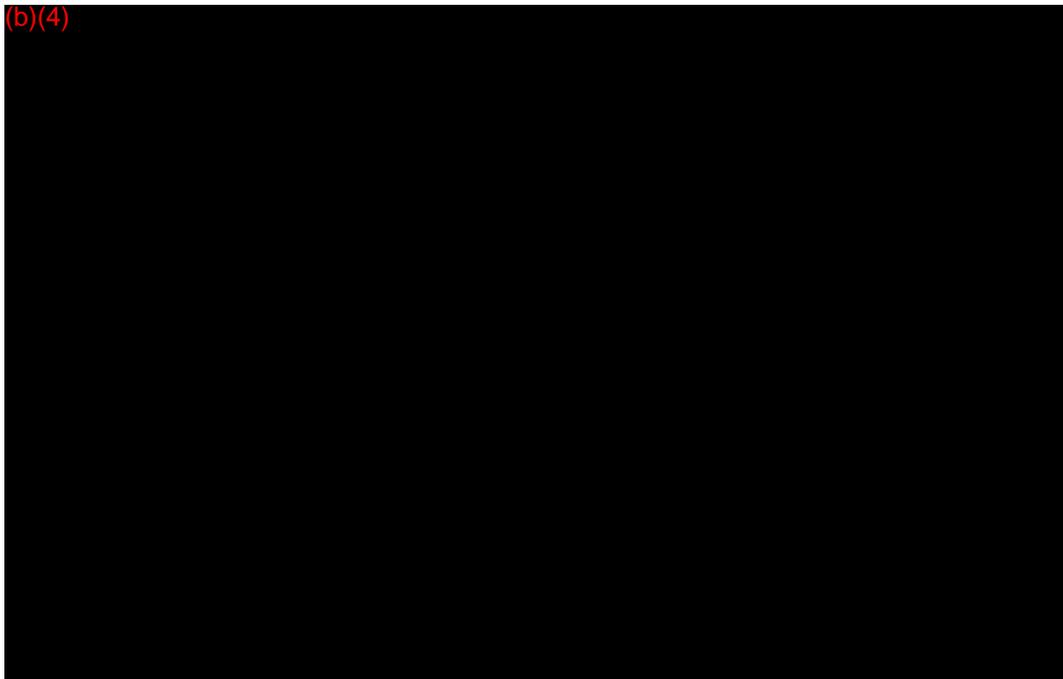

Figure 14 – (b)(4)
The (b)(4) score for each case along with the minimum and maximum score (when they differ from the median score) are shown below in Figure 14. (b)(4)